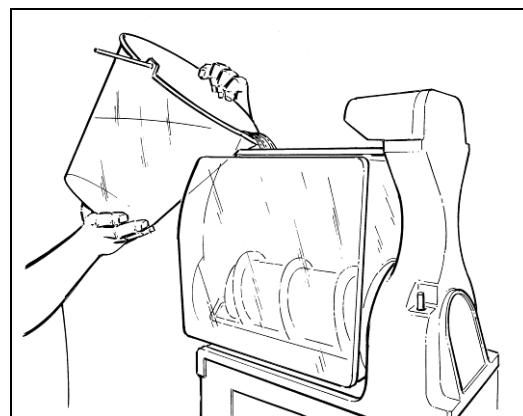

Fig. 7
- Pour the mix obtained into the bowl respecting the maximum limit on the bowl (see fig.7).